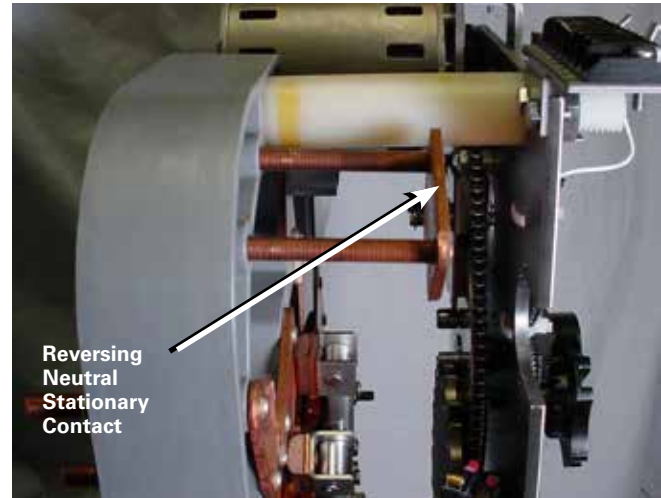

**Figure 11. Removing reversing movable contact.**
- Rotate the reversing movable contact counter clockwise until the movable contact assembly disengages from the reversing neutral stationary contact and remove it from the tap-changer. See Figure 11.